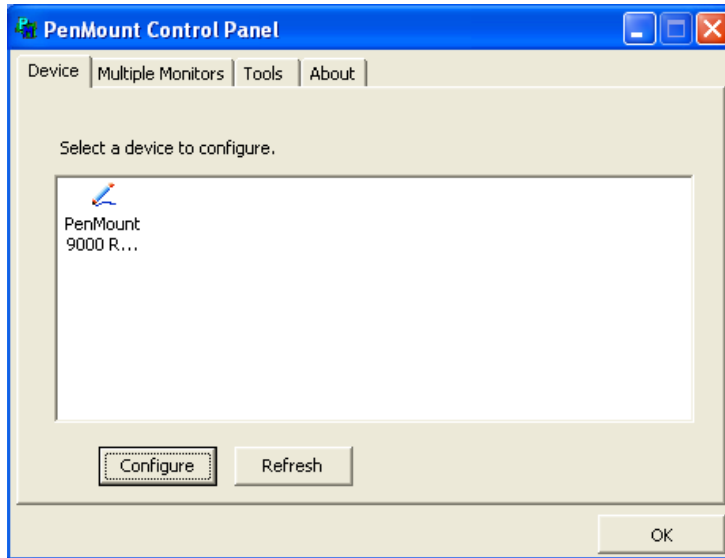

Figure 6-25: Configuration Screen
Step 5: The configuration screen in **Figure 6-25** appears.
Step 6: Double click the PenMount 9000 icon as shown in **Figure 6-25**.